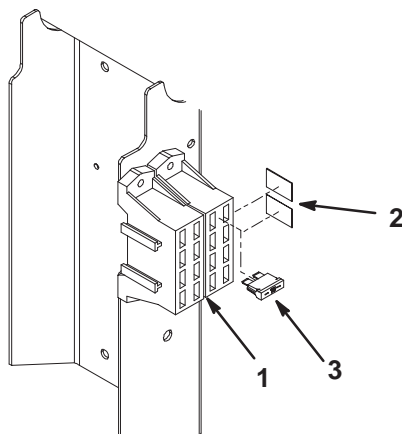

Figure 1
4. Remove the (6) screws and nuts securing the bumper to the vehicle frame and remove the bumper.
5. Remove the (7) screws securing the front hood to the vehicle frame and remove the hood.
7. Affix the fuse decals to the corresponding circuits on the vehicle fuse block decal (Fig. 1).